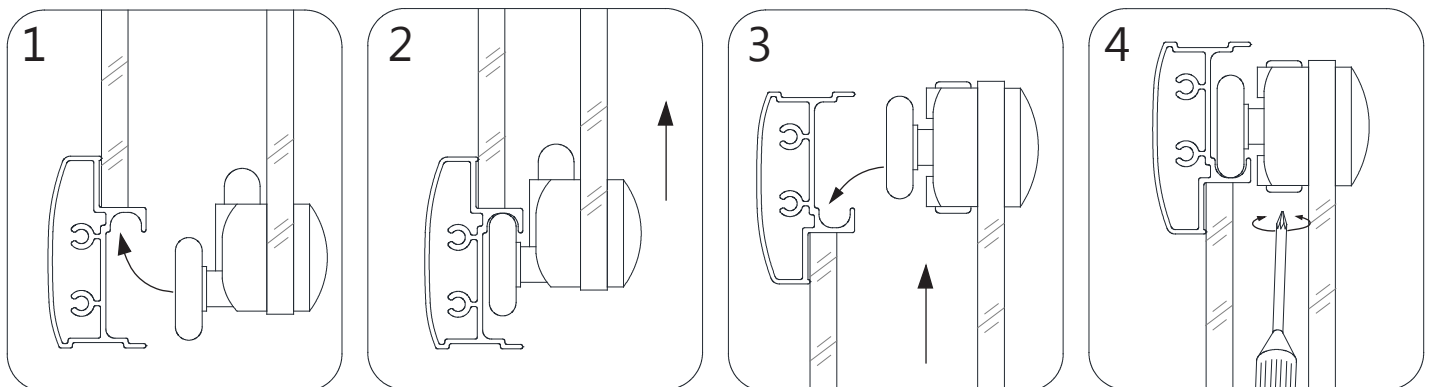

Fig 13
13. From inside of the shower, insert the bottom **Wheel Assemblies (#17)** into the **Bottom Guide Rail (#03)**, lift the door up and snap the top **Wheel Assemblies (#17)** into the **Top Guide Rail (#03)**. Test the operation of the door, and if necessary, use a #2 Phillips screwdriver (**do not use a power screwdriver**) to adjust the upper wheels so the door rolls smoothly and the closes tight. (**Fig 13**)